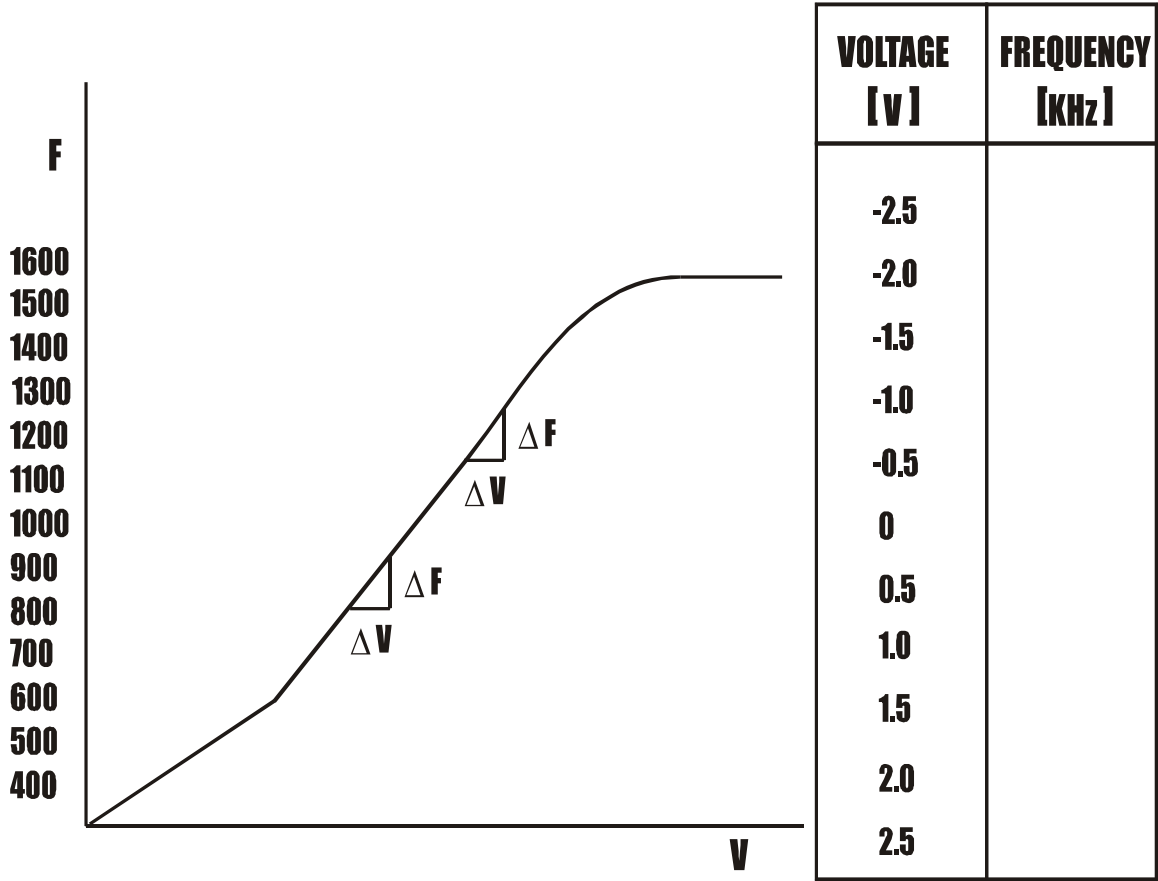

FIG.4.4 MODULATION CHARACTERISTIC CURVE
The characteristic modulation curve is given by the output frequency of the modulator as function of the input modulating voltage (fig.4.4). It is possible to plot the curve of fig.4.4 post by post, using a potentiometer amplitude variation of the modulating signal is done and the corresponding output frequency of the modulator is measured.
- Plot a graph with the measured voltage and frequency values. You obtain a curve similar to the one of fig.4.4
- Consider the modulator operation in the segment of curve within 700 to 1300 KHz, with central frequency of 1000 KHz. From the analysis of the curve of fig.4.4 it is possible to calculate the modulation sensitivity of the modulator.
With reference to the curve of fig.4.4, in correspondence to the central frequency (1000 KHz) you obtain:
As the sensitivity, also the linearity can be plotted point by point by the curve of fig.4.4. Considering for example the point around 1300KHz, the calculation is carried out as follows:
- Move the switch **S3** of VCO1 to 500KHz, vary the modulating voltage with steps of 50mV and plot the modulation curve from 400 to 500KHz about. You obtain a similar curve to the one of fig.4.4. Analyze the modulation sensibility and the non-linearity of the considered curve segment.